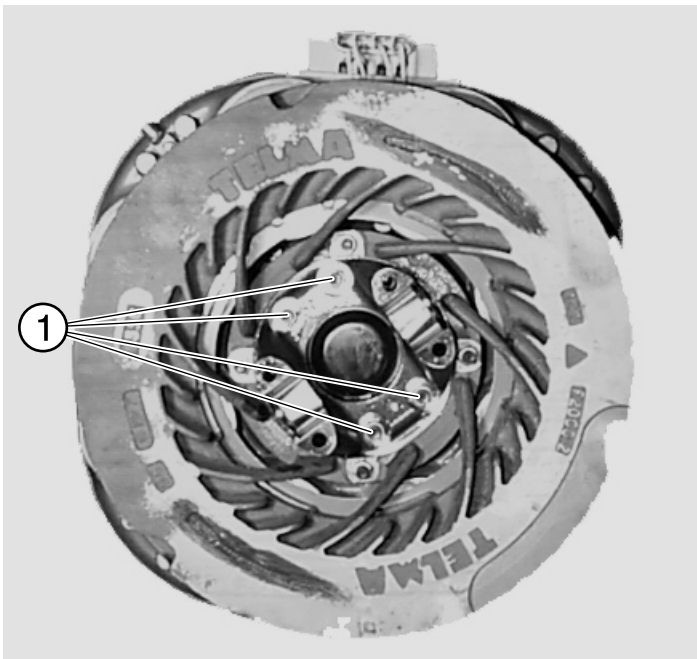

Figure 9 Front view Telma retarder
7. Loosen the 4 nuts {1} (see Figure 9) of the gearbox main shaft. The retarder is now completely freed from the gearbox and can be removed.